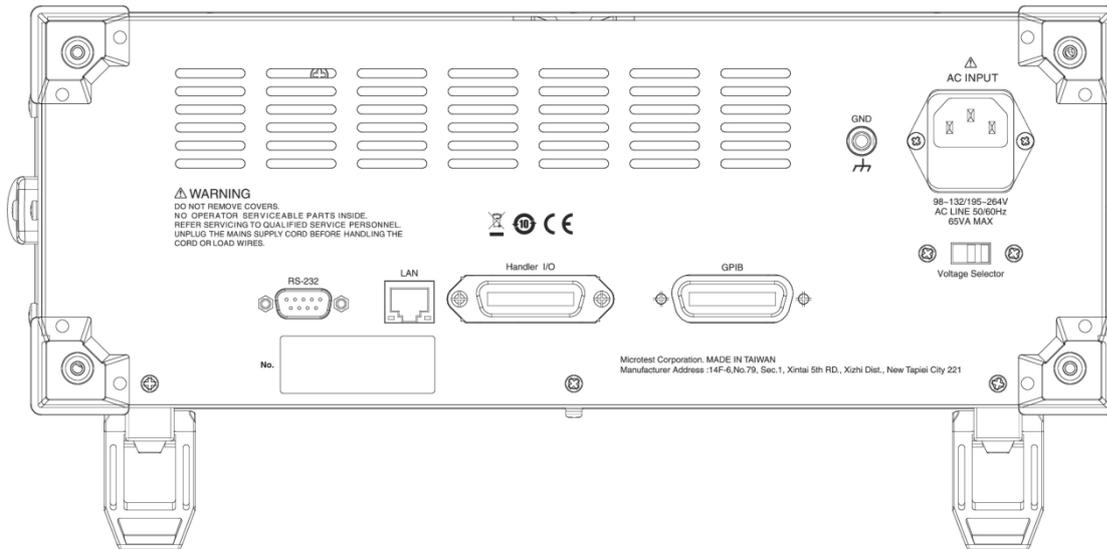

Figure 2-7-2 LCR-6365 Tester Back View
**LCR-6365 Back Connection:** (please refer to Figure 2-7-2)